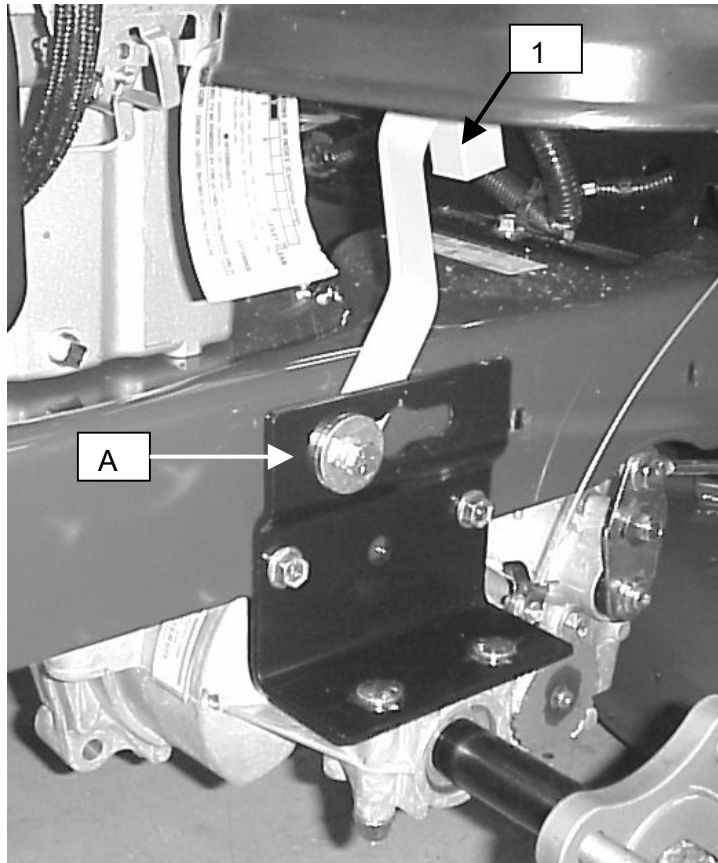

Figure 1A
Step 1; See Figure 1A, 1B, 1C: